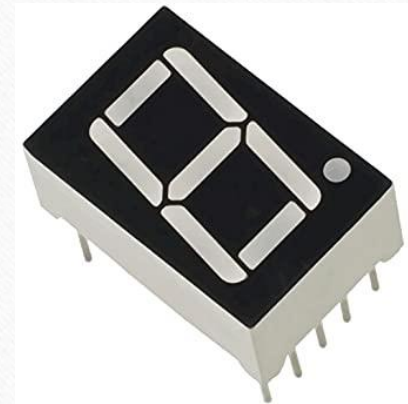

Fig 2.2
- Seven Segment Display: For count down of numbers. (fig 2.2)